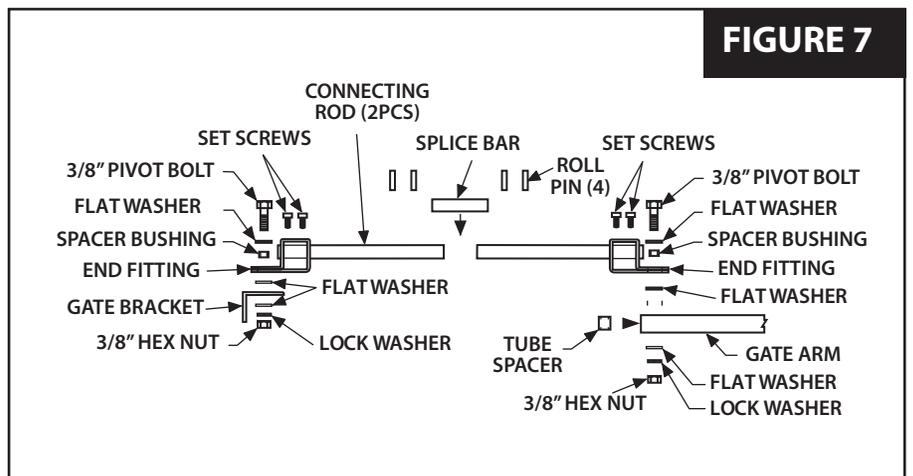

FIGURE 7
3. Install end fittings on connecting rod assembly and attach one end of assembly to end of control arm extension. See **Figure 7**.
4. Install gate bracket on remaining end of connecting rod (See **Figures 7 & 8**)